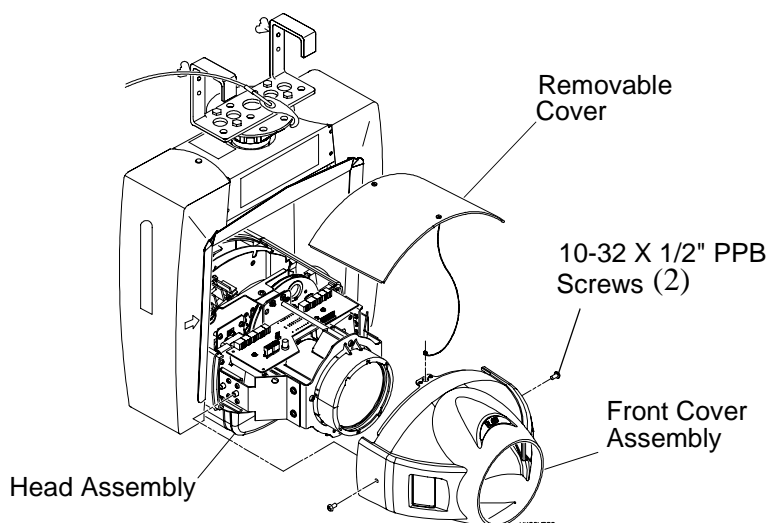

Figure 2-32: Removing Covers
- Step 3. At head assembly, using #2 Phillips screwdriver, turn two captive screws one-quarter turn and remove removable cover. (It will remain attached by tether.). **Figure 2-32.**